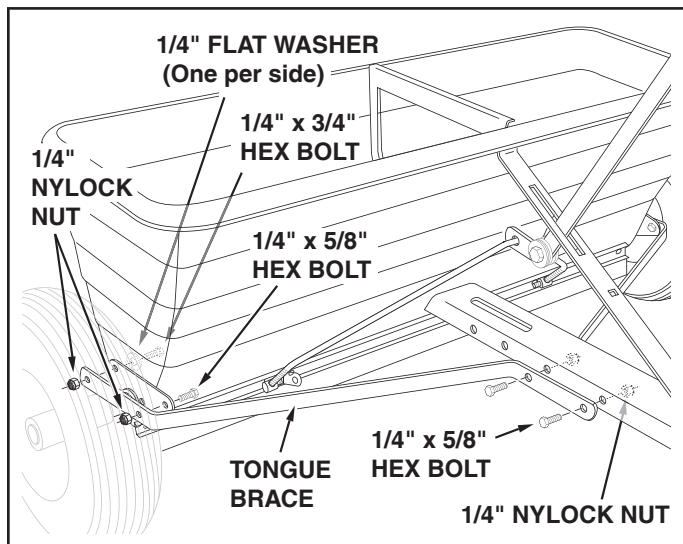

FIGURE 4
8. Assemble one end of a tongue brace to the side of the tongue using two 1/4" x 5/8" hex bolts and 1/4" hex nuts. **Do not tighten yet.** See figure 4.
9. Assemble the other end of the tongue brace to the triangular plate on the end of the spreader. Use a 1/4" x 5/8" hex bolt and 1/4" nylock nut in the front hole of the plate. Use a 1/4" x 3/4" hex bolt, 1/4" flat washer and 1/4" nylock nut in the rear hole, with the bolt and washer assembled on the inside of the hopper as shown in figure 4. **Do not tighten yet.**